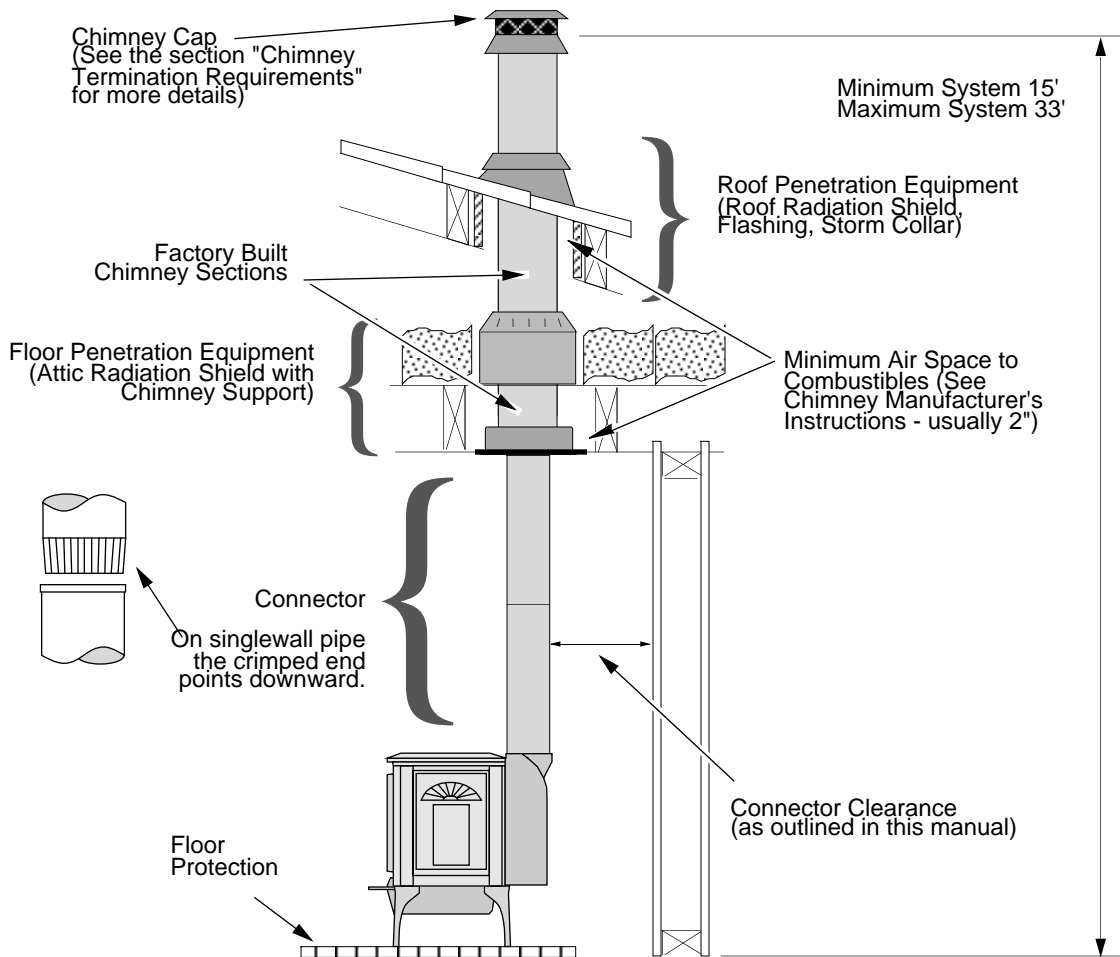

Figure 7
- Chimney connector is required from the flue collar of the stove to the factory-built chimney (see Figure 7) or masonry chimney (see Figures 13, 14, and 15).
- The chimney connector must be installed with the crimped end pointing downwards (see Figure 7). This prevents creosote from leaking to the exterior of the pipe.